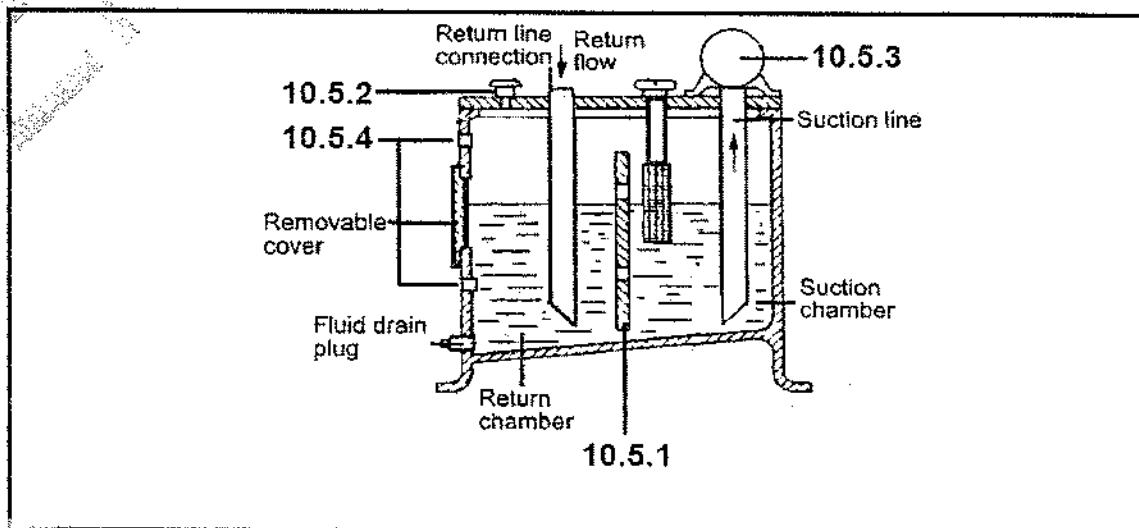

FIGURE 5
- 10.5 FIGURE 5 shows the sketch of a hydraulic reservoir. (2)